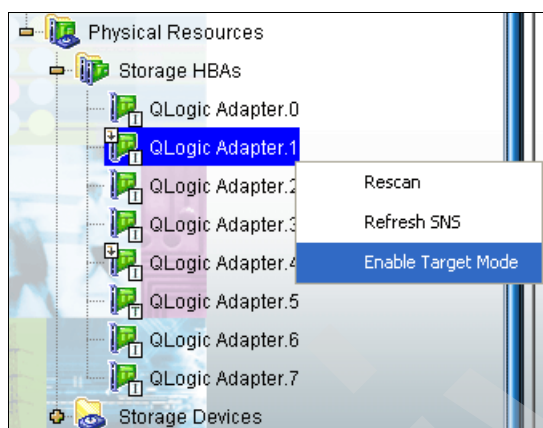

Figure 12-85 Changing a port from target mode to initiator mode
3. Right-click the icon for the desired HBA and then click **Enable Target Mode** (Figure 12-85).